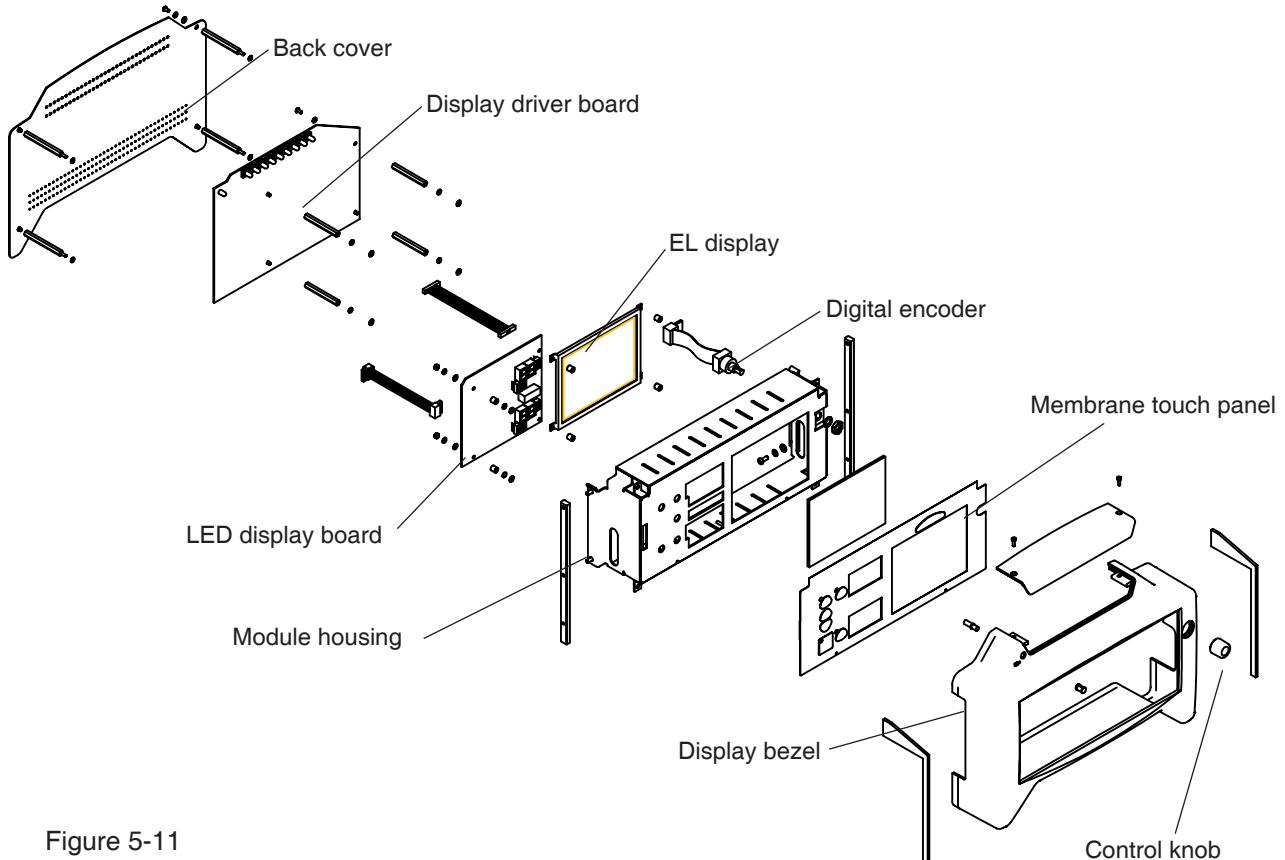

Figure 5-11
5.7.1 Display module (Figure 5-11)